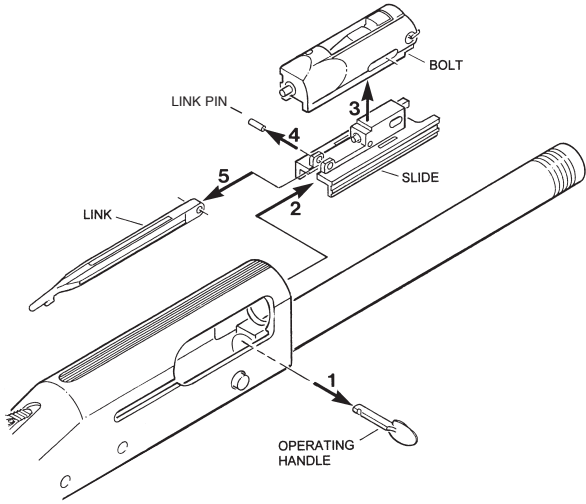

Figure 13
1. Pull the operating handle straight out of the bolt (Figure 13).